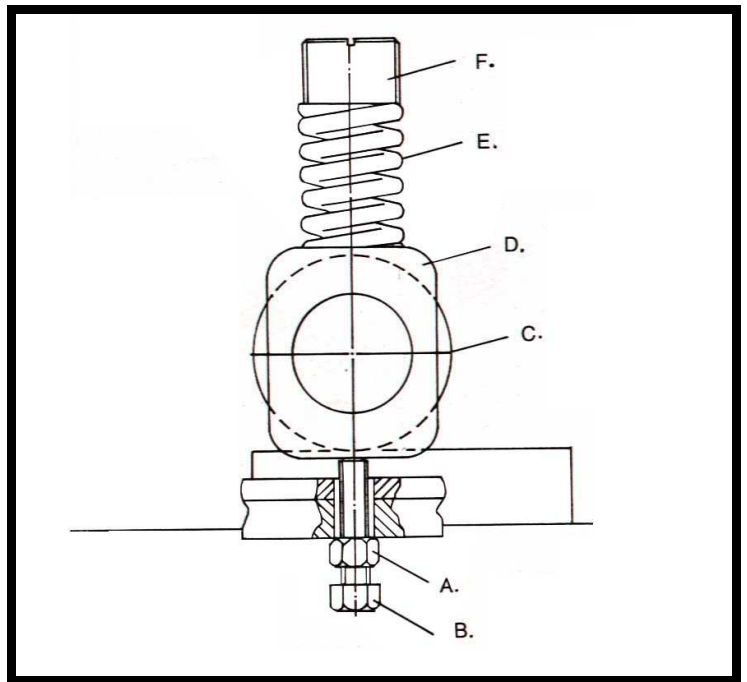

Fig. 16
Adjust the spring tension of the infeed and outfeed rollers by turning the spring tension adjustment screw (F) as shown in Fig. 16.